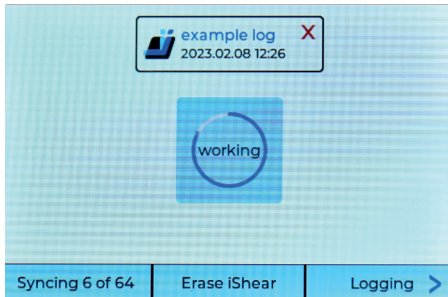

Figure 22
2. In the logging menu tap 'Sync logs'. The display will check the 64 log slots for saved logs (see Figure 22.)